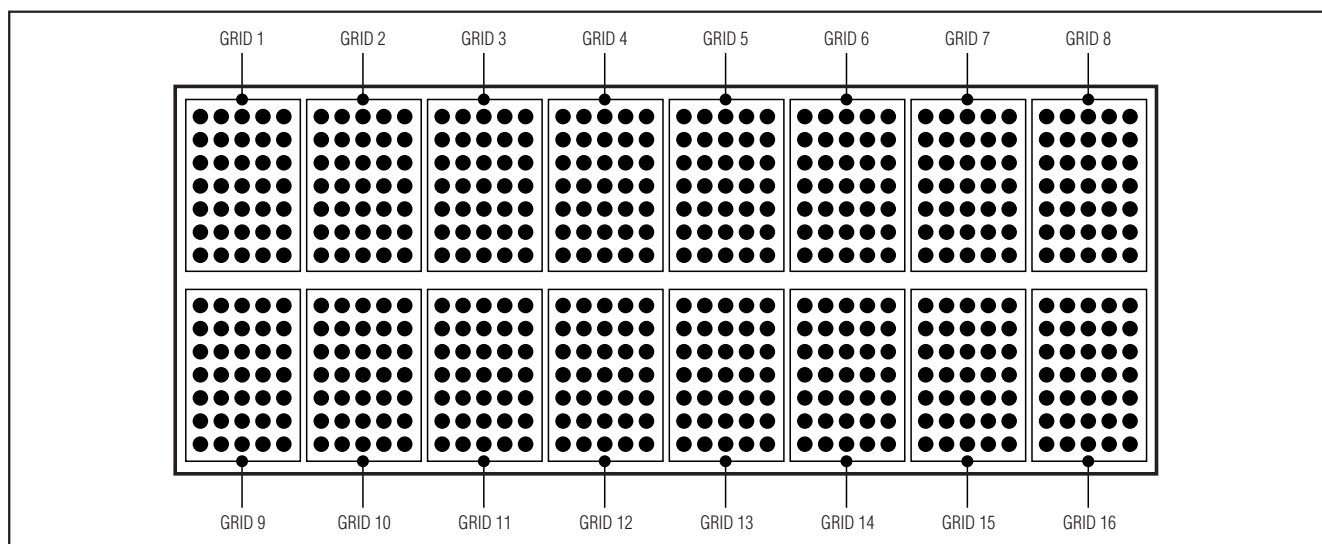

Figure 1. Example of a One-Digit-per-Grid Display
- Multiplexed displays with one digit per grid, and up to 48 grids (in 48/1 mode). Each grid can contain one 5 × 7 matrix character, a decimal place (DP) segment, a cursor segment, and four extra annunciator segments (Figure 1).